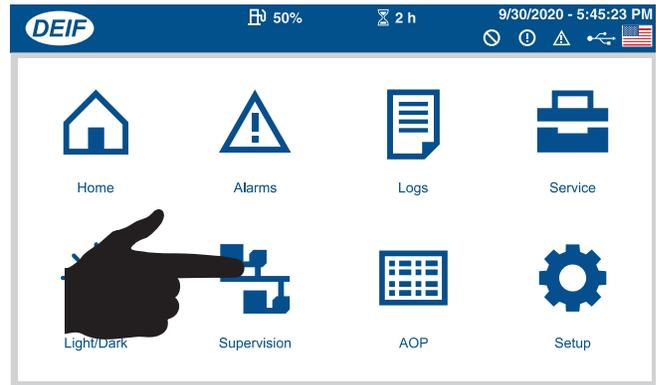

Figure 138. Main Menu Screen (Supervision Button)
28. Verify that the **Main Menu screen** is displayed (Figure 138), then press the **Supervision button**.
- Verify that the **Main Menu screen** is displayed (Figure 138), then press the **Supervision** button.